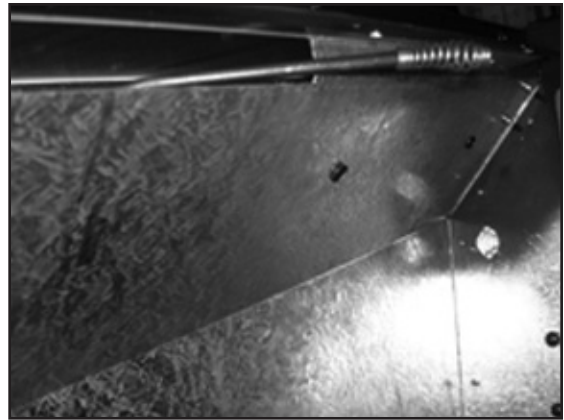

Figure 3
1. Locate screws attached to front side top of interior firebox and remove. (Figure 3).
- DOOR LOCKING TABS CAN BE SET BY BENDING UP OR DOWN. SEE FIGURE 3.